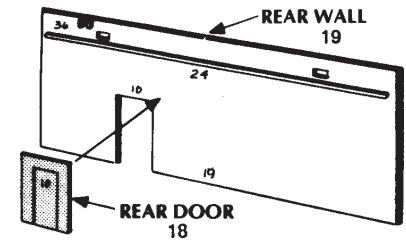

fig. 1
1. Cement the REAR DOOR (18) to the REAR WALL (19). (Fig. 1)